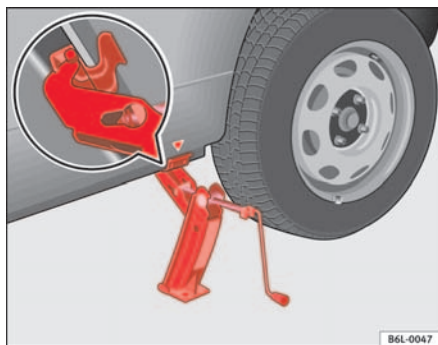

Fig. 133 Fitting the jack
- Align the jack so that the arm of the jack fits around the rib under the door sill and the movable base plate of the jack is flat on the ground ⇒ fig. 133.